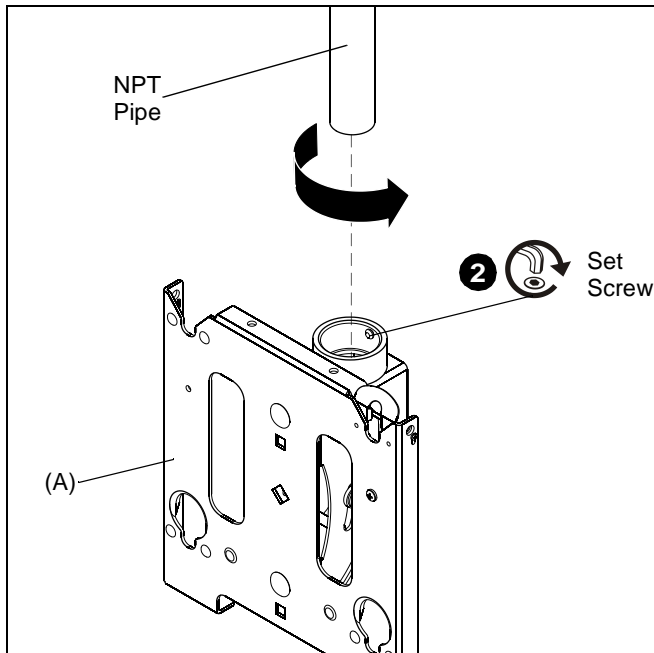

Figure 1
1. Thread the mount (A) onto the existing 1-1/2" NPT pipe until tight. (See Figure 1)
2. Using the hex head wrench (B) tighten the set screw to prevent movement of the mount. (See Figure 1)